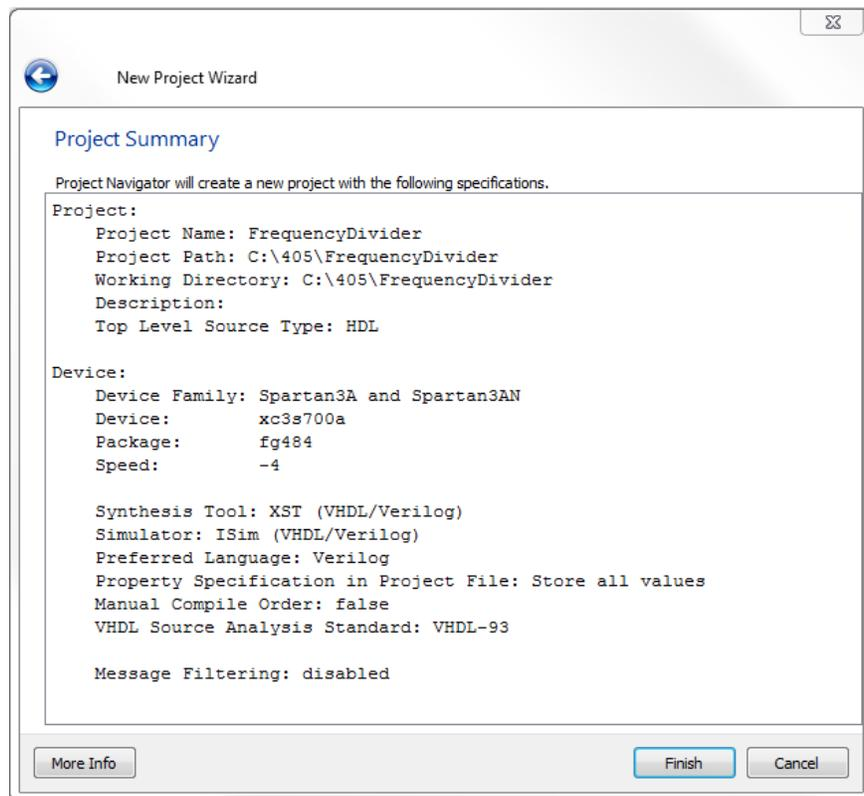

Figure 2
10. Click **Finish** to create the project. A summary of the project will be shown as in Figure 2. A new project called *FrequencyDivider* is created and is shown in the left side panel under implementation view.